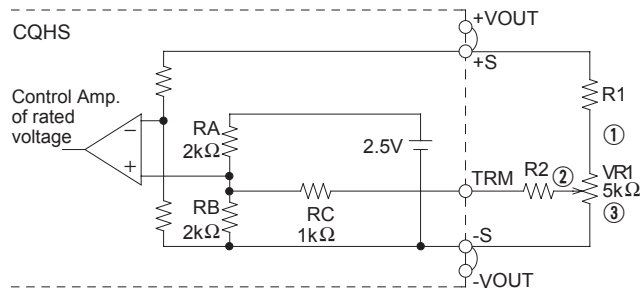

Fig. 4.4 Output voltage control circuit
(1) Output voltage adjusting
■By connecting the external potentiometer (VR1) and resistors (R1, R2), output voltage becomes adjustable, as shown in Fig. 4.4, recommended external parts are shown in Table 4.2.